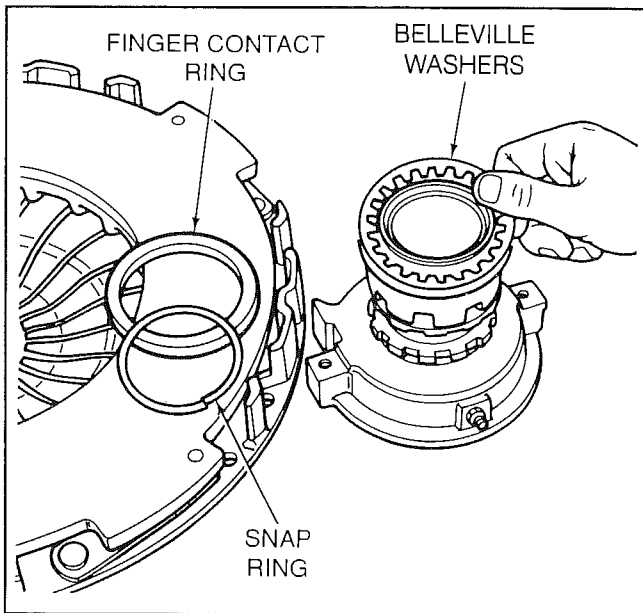

Figure 10-3. Belleville Washer Installation
6. Place two (2) toothed Belleville washers on the coupler pilot with the teeth pointing down toward the shim washers (Fig. 10-3).